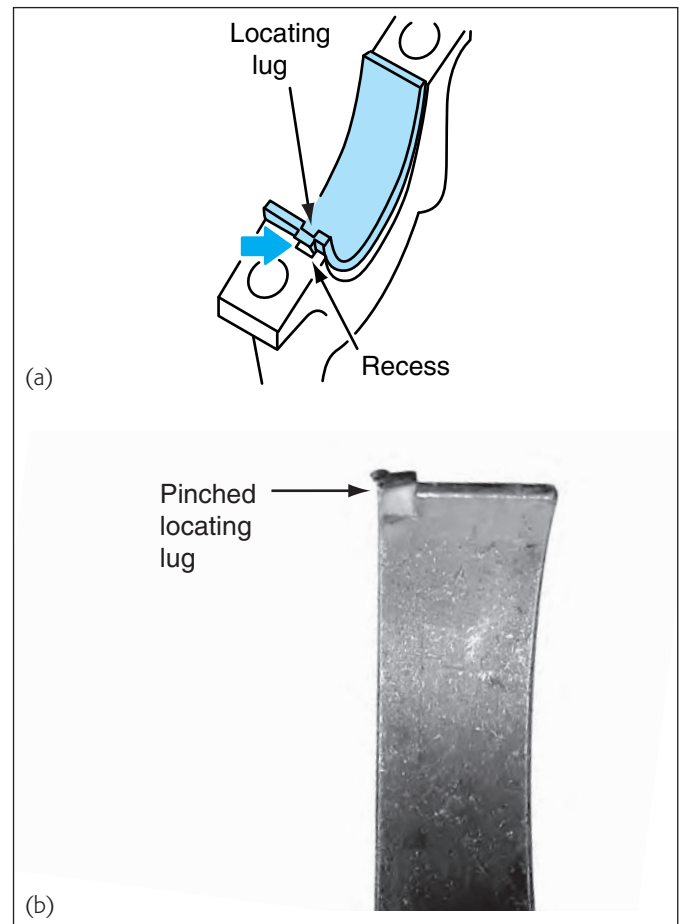

FIGURE 17.29 Make sure that the bearing locating lug is properly located in its notch before torquing the rod cap.
- Make sure that the bearing locating lugs are aligned in the cap. **Figure 17.29** shows a bearing that was damaged when the bearing cap was torqued while the locating lug was not correctly seated.